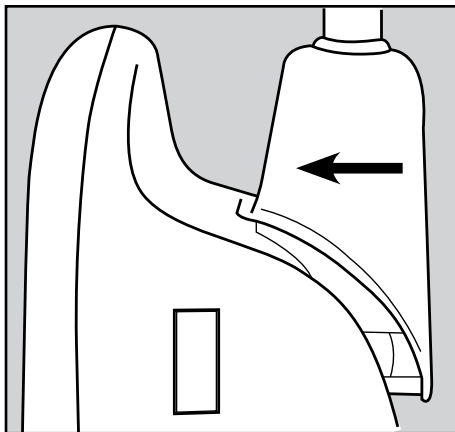

Fig. 1
- On the bottom of the handle are two “T-shaped” rails that slide forward onto two guides located on the top of the vacuum cleaner. Line up the handle so that the “T” rails will slide into the guides and push the handle forward (Fig. 1).